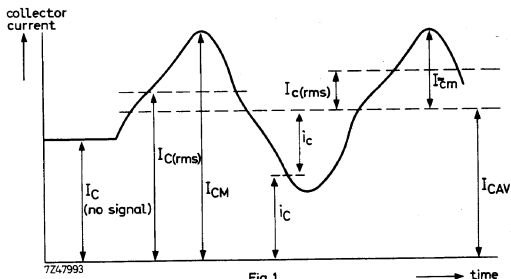

Fig.1
4. List of subscripts (examples, see figure 1):
Figure 1 represents a transistor collector current, consisting of a direct current and a signal, as a function of time.